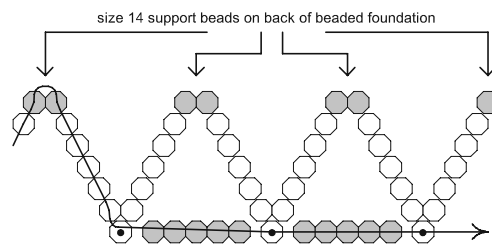

Fig. 5
- With the needle extending from the connector bead and the center of the first swag, pick up the beads for the first support section (Fig. 5).